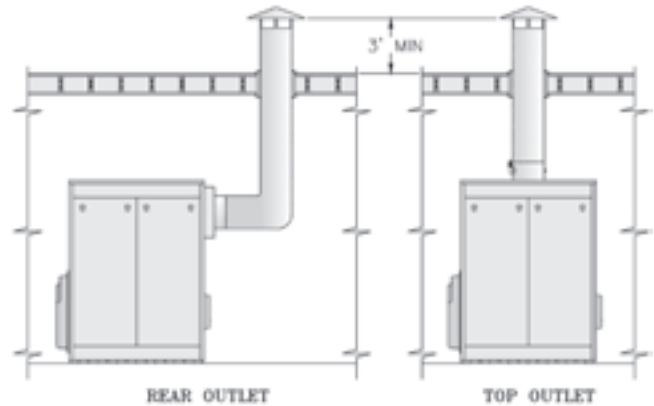
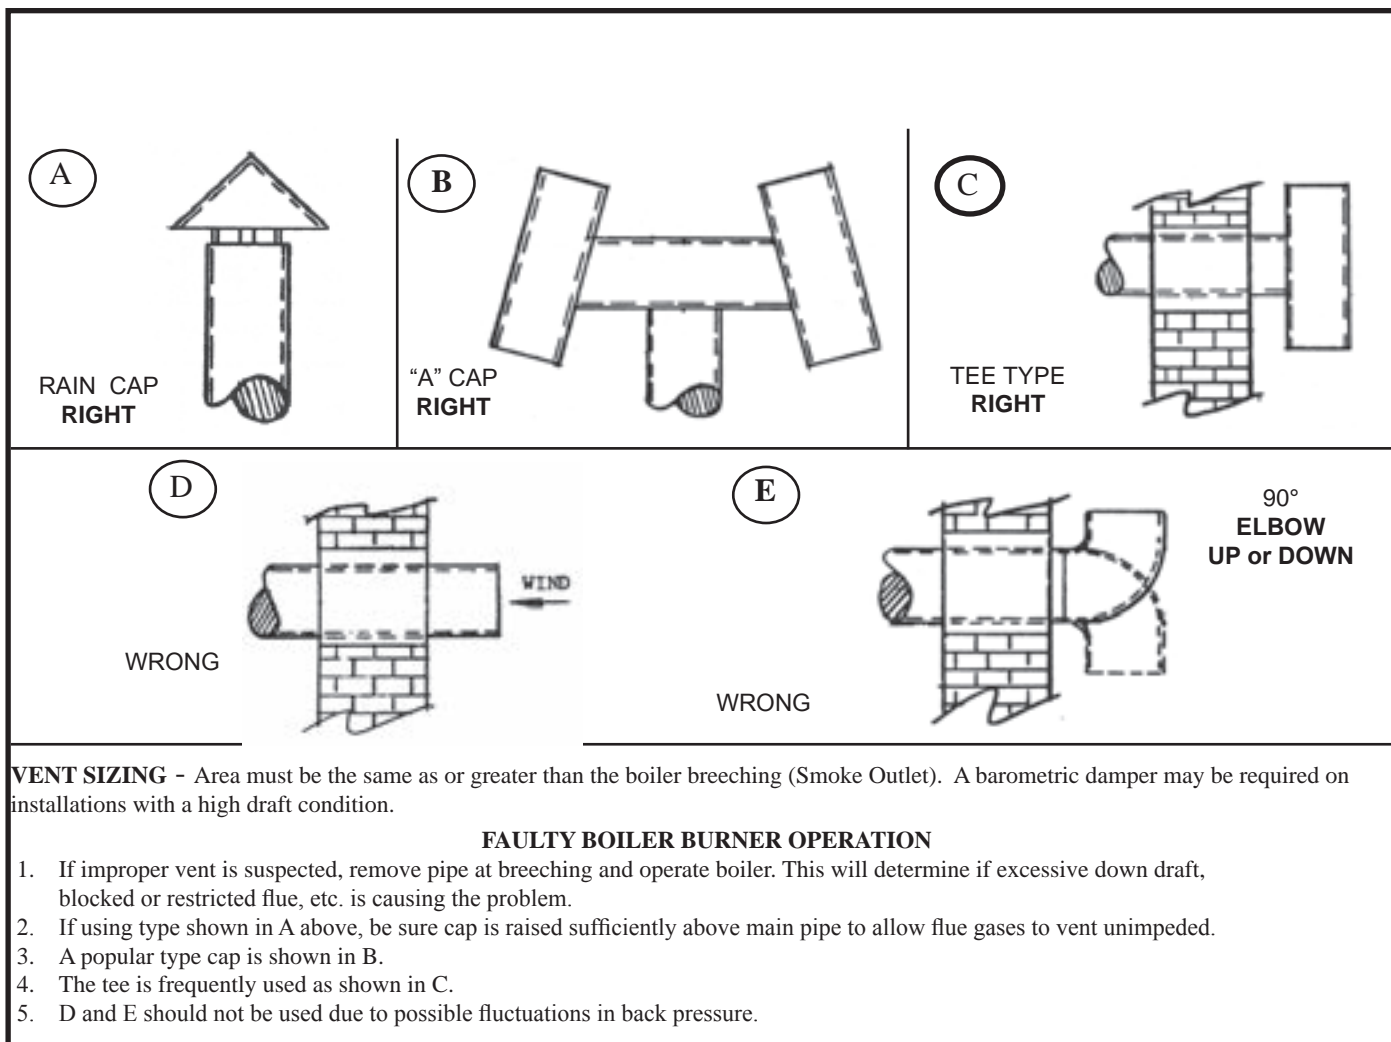

Figure 3a: Typical Arrangement for Stub Vent
Figure 3b: Vents — Faults & Suggestions
This boiler is designed for forced draft firing and may be used with a conventional natural draft stack (15' minimum height) or a stub vent, sometimes called a diesel stack (see Figure 3a). See Table I for the proper vent outlet size. For low silhouette vent terminations, see Figure 3b. Draft controls are not normally required, although they may be used on installations where a natural draft stack is used or on multiple boiler installations with a common stack. The boiler is provided with a breeching damper, which should be adjusted to maintain a positive pressure of 0.1" W.C. in the vent connector box during burner high fire operation (see breeching pressure sensing port in Figure 1).
draft venting, the boiler, vent connector and stack will operate under positive pressure. Gas tight vent systems designed for pressure systems must be used to prevent flue by-product leakage. The vent height is usually limited to prevent negative draft, typically three (3) feet above the roof line (see Figure 3a). The damper shall be adjusted to maintain a positive pressure of 0.1" W.C. in the vent connector box during burner high fire operation (see breeching pressure sensing port in Figure 1).